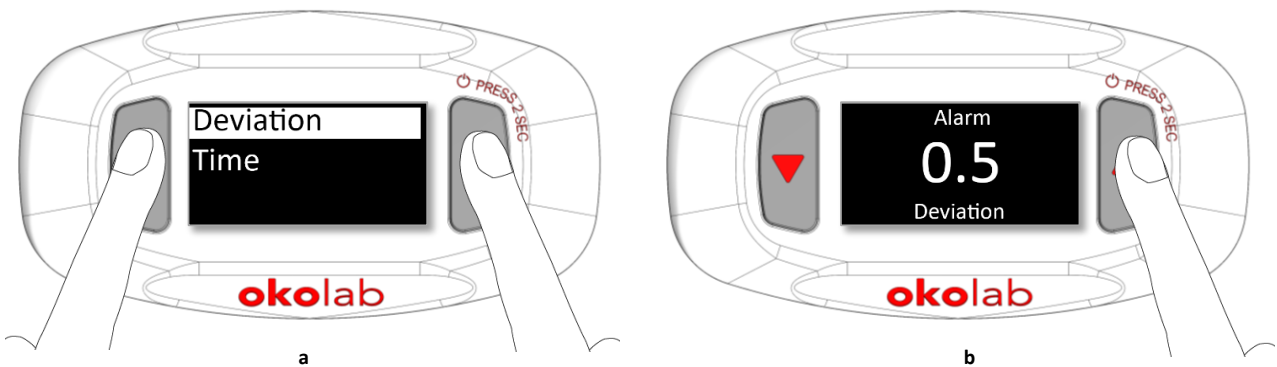

Figure 25. Deviation value setting (a - b).
2. Press UP & DOWN buttons at the same time for 1 second to enter the *Deviation Page* (see Figure 25 a), use the UP or DOWN button to change the deviation value (see Figure 25 b). Confirm by pressing again UP & DOWN buttons at the same time for 1 second.